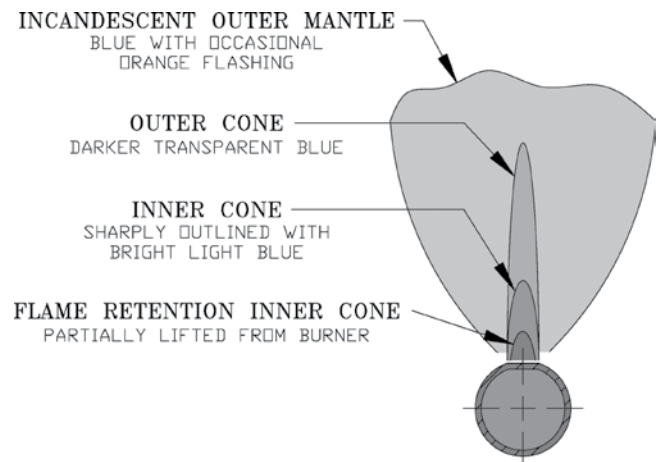

Figure 16: Main Burner Flame
- I. Check main burner flame.** See Figure 16. Flame should have clearly defined inner cone with no yellow tipping. Orange-yellow streaks should not be confused with true yellow tipping.